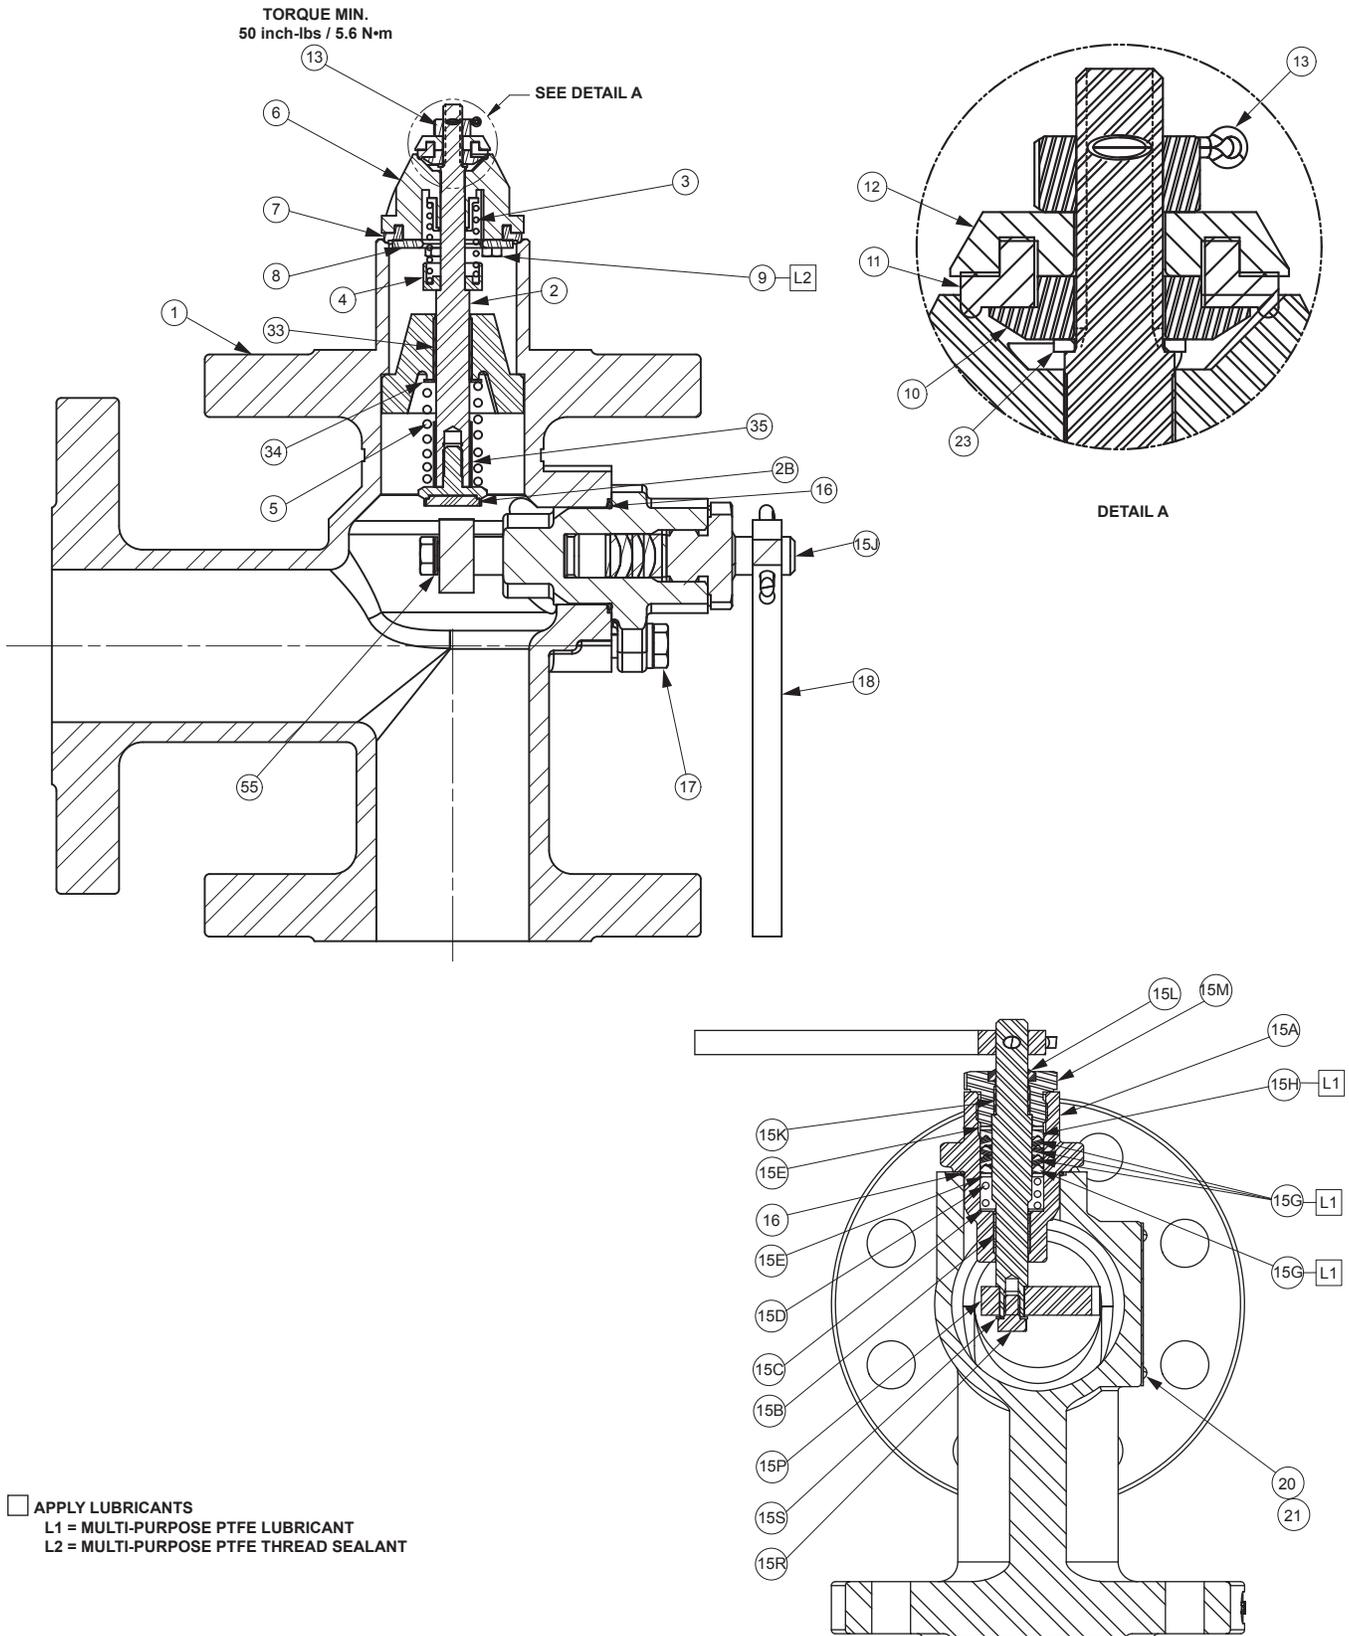

Figure 6. Type C891 Assemblies
2. Remove the cotter pin (key 14, Figure 6) and unscrew the hex nut (key 13).
3. Remove both disc holders (keys 6 and 12) from the stem (key 2).
4. Unscrew the three screws (key 9) holding the disc retainer (key 8) to replace the main seat disc.
6. If the excess flow spring (key 3) is changed, replace the nameplate or stamp the body with the new type number.
7. Always replace the sealing washer (key 23).
8. Reassemble in reverse order using 15 to 20 foot-pounds torque to install the disc retainer (key 8). Apply Loctite No. 242 or equivalent on the stem threads before installing the hex nut (key 13).